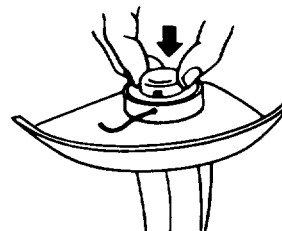

Figure 18
3. If line should tangle or break at eyelet, refeed cutting line through eyelet by pushing spool in as far as it will go and threading line back through eyelet. Or you may remove spool completely, refeed the line through the eyelet, and reassemble spool to trimmer (Fig. 18).